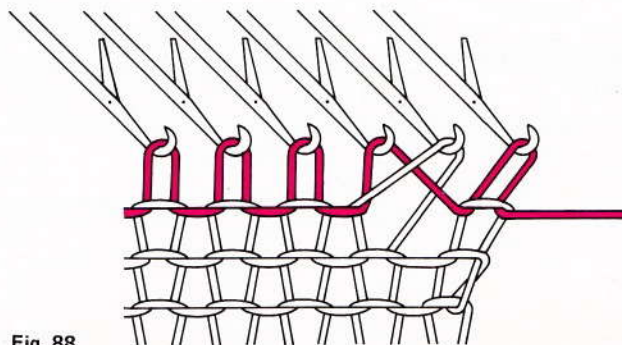

Fig. 88
- Transfer this loop onto the empty needle (fig. 88).